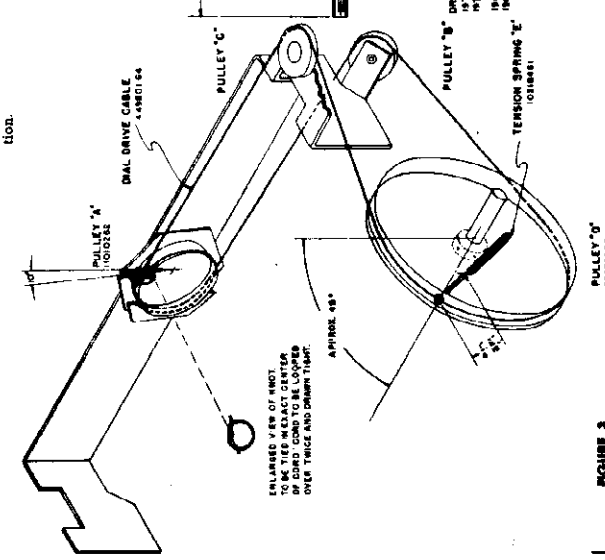

FIGURE 3
2. Check the tuning dial pointer adjustment. When the plates of the tuning condenser are completely meshed, the dial pointer must be in line with the 100 calibration mark at the low frequency end of the dial. If it is not, loosen the set screws in the hub of pulley "D" shown on Figure 3 and make the necessary adjustment.
Recede the brass pulley designated "A" in Figure 3 until the dial pointer strikes the stop at the high frequency end of the dial calibration. In this condition the slot in pulley "A" should be approximately ten degrees to the left of being vertical—see Figure 3. If the slot in the pulley is in some other position under the above mentioned conditions, the pointer set screw is probably loose and has allowed the pointer to slip.
Completely unmesh the condenser gang and check the location of the hole or slot in pulley "D". If this hole is not approximately 45 degrees back from vertical as shown on Figure 3, loosen the two No. 6 Allen set screws in the hub of pulley "D" and slip the pulley on its shaft (while holding the condenser gang unmeshed) until the specified adjustment is obtained; then tighten one of the set screws securely. It will be shown later that this is a temporary setting. Next, tie a double knot in the exact center of a 25-inch length of dial cable and hold the cable back on itself so that the knot is at one end. The correct
method for tying this knot is shown as an inset on Figure 3. Grasp the cable near the knotted end and slide it into the pulley slot so that the knot is against the inside rim of the pulley as shown in the sketch. The piece of cable nearest the dial frame should be wound in the direction shown for one-half turn; then wound in the lower pulley "B" around the bottom of the large pulley "D" and into the hole. Pull the cable taut and wrap the end around the small hook on pulley "D" temporarily.